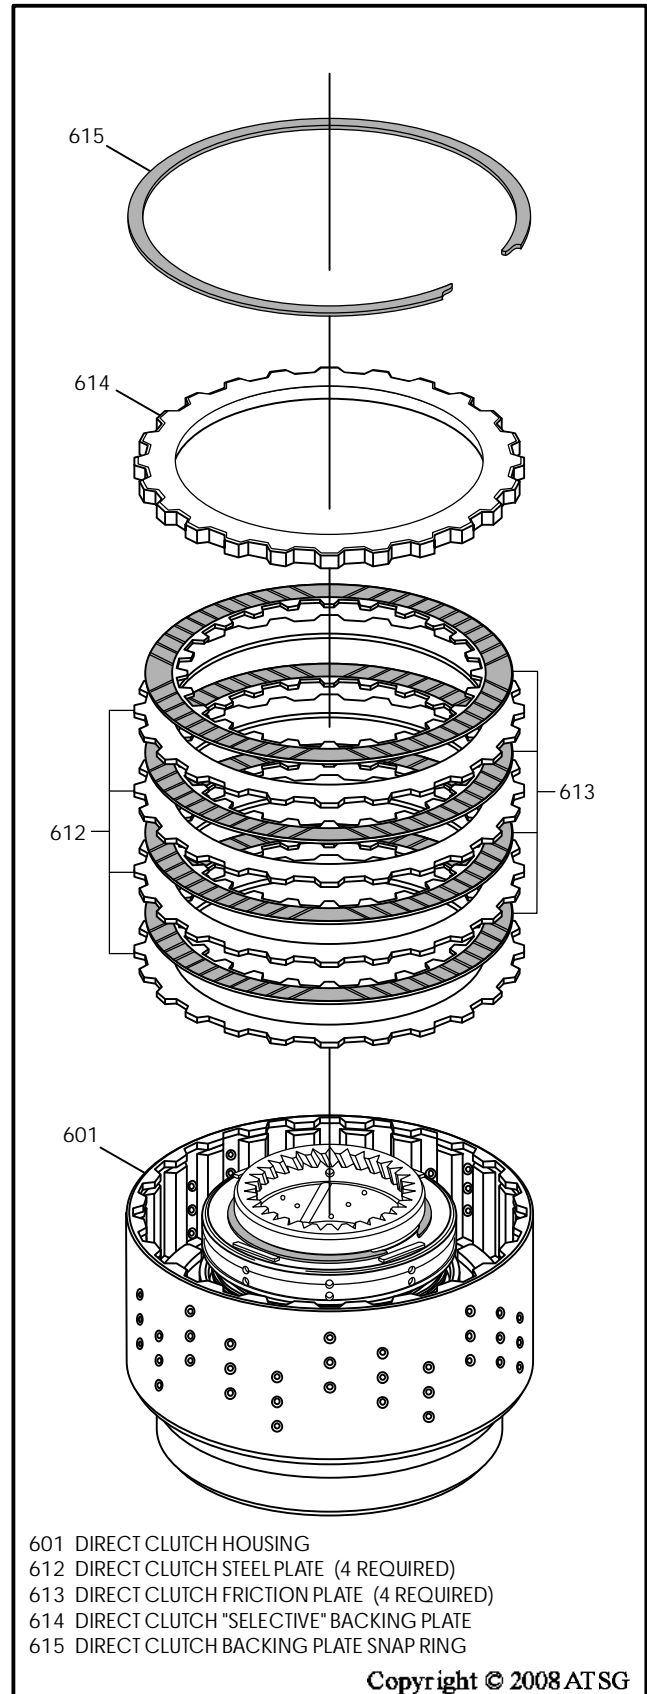

Figure 119
12. Install the direct clutch plates beginning with a steel plate and alternating with friction plates, as shown in Figure 119, until you have four of each installed, for the Mazda.
13. Install the "selective" direct clutch backing plate, as shown in Figure 119, with the flat side facing down.
14. Install the direct clutch backing plate snap ring as shown in Figure 119.